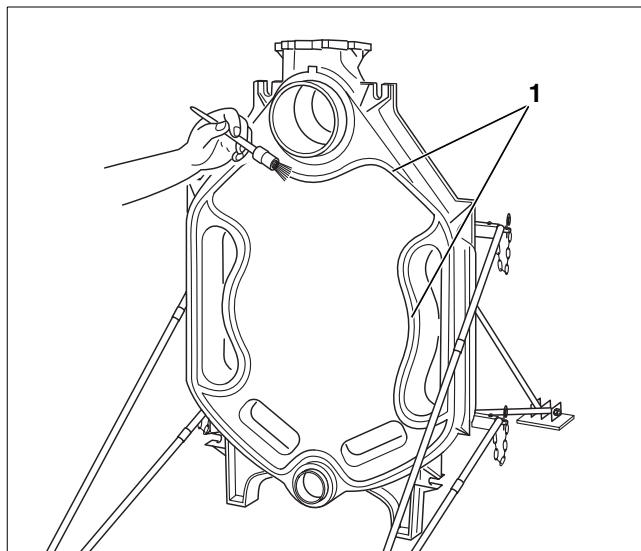

Fig. 12 Coating grooves for sealing rope with bonding agent
The grooves for the sealing rope (Fig. 12, **ref. 1**) must be clean and dry to allow the rope (KM rope) to be bonded into them.